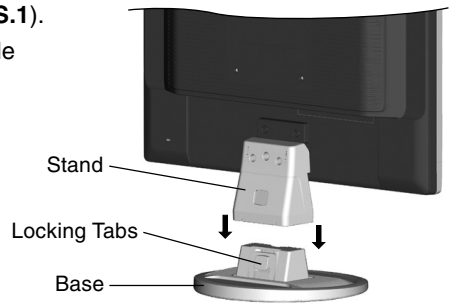

Figure S.1
1. Insert the front of the LCD stand into the holes in the front of the Base (**Figure S.1**).
2. Attach the Base to the Stand. The locking tab on the Base should fit into the hole on the back of the Stand (**Figure S.1**).